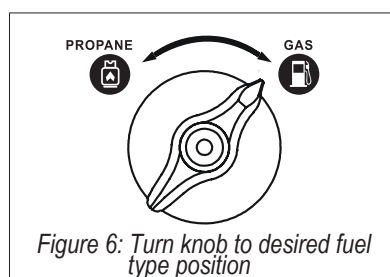

Figure 6: Turn knob to desired fuel type position
5. Turn knob to desired fuel usage position (see Figure 6).
4. Turn the Fuel Control Switch to the ON position (see Figure 6).
3. Confirm that the Fuel Control Switch is in the ON position (see Figure 6).